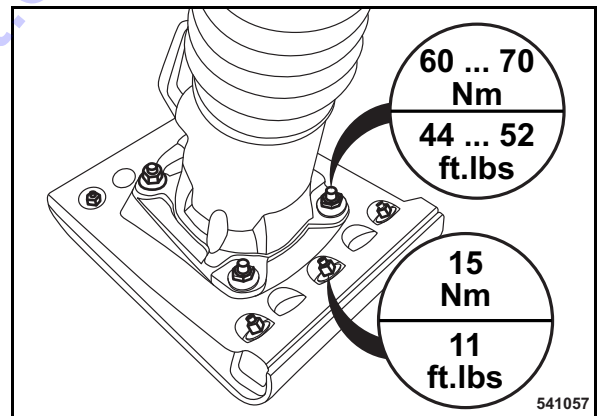

Fig. 44
- Retighten the screws (Fig. 44).